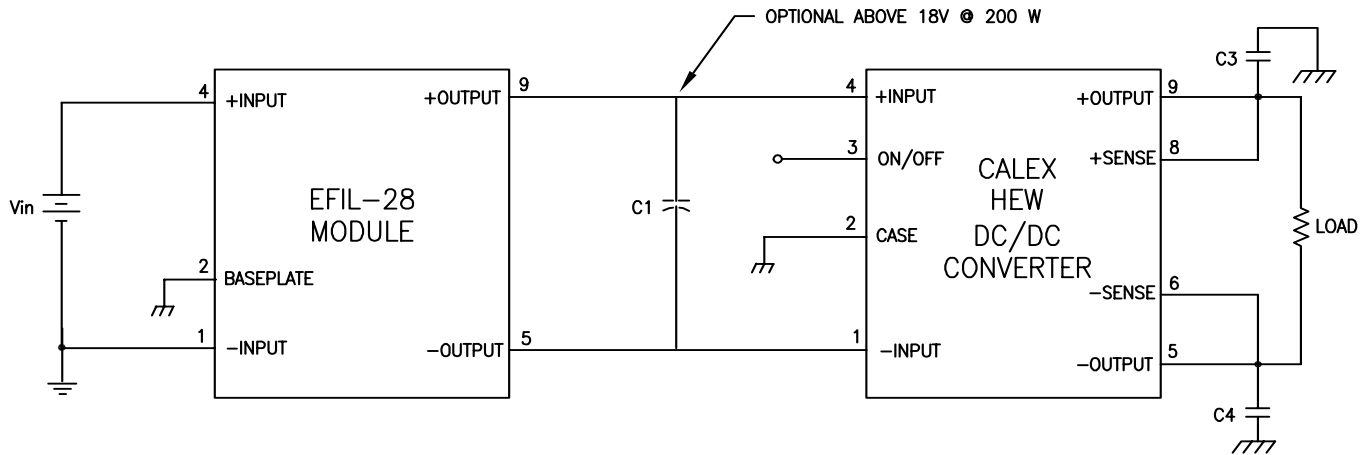

Figure 2. EFIL-28 with Calex HEW Series DC/DC Converter
- (1) Reverse Polarity Protection: Reverse polarity will NOT damage the module. However, precautions must be taken to ensure downstream circuitry is protected. Calex HEW series DC/DC converters implement reverse polarity protection.
- (2) Refer to the CALEX Application Notes for information on fusing.
- (3) Thermal impedance is tested with the module mounted vertically and facing another printed circuit board 1/2 inch away.
- (4) Contact the factory for higher output power capabilities.
- (5) Due to the negative input resistance characteristics of DC/DC converters, the addition of an input filter may cause instability. To ensure a stable system, the output impedance of the filter must be smaller in magnitude than the converter input impedance. This can be ensured with the addition of an external capacitor connected to the input of the converter. Under normal operating conditions, specified as 28VDC input at 200 Watts, the EFIL-28 does not require any external capacitance.
- (6) Due to the added inductance (50 μH) of the Line Impedance Stabilization Network (LISN) used in MIL-STD-461E testing, capacitor C1 is required to maintain converter stability. See Figures 2 and 3.
- (7) Measurements comply with the requirements set forth in MIL-STD-461E, CE101 and CE102.
- (8) The case thermal impedance is defined as the case temperature rise over ambient per package watt dissipated.
- (9) Isolation is measured by applying a DC voltage between pins and baseplate.
- (10) Calex CBAM™ modules are designed to withstand most solder/wash processes. Careful attention should be used when assessing the applicability in your specific manufacturing process. The CBAM™ modules are not hermetically sealed.
- (11) Torque fasteners into threaded mounting inserts at 12 in.oz. or less. Greater torque may result in damage to the unit and void the warranty.
- (12) MTBF is calculated based on MIL-HDBK-217F under the following conditions:
- (13) Available with RoHS and Non-RoHS construction, contact factory for details.